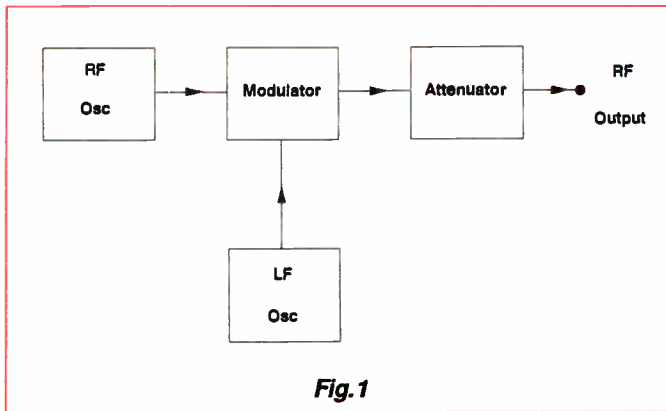

Fig.1
Both the AMPS and the GSM cellular radio systems approach the radio coverage aspect very differently. Instead of using a single high power transmitter to blanket, say, a city, the city is divided into several smaller areas called *cells*. Each cell may have a radius of perhaps only 10 or 20km, and each cell will also have its own base station. In diagrams, cells are usually drawn as hexagons; see Fig.1.
**Fig.1 (left):** With Cellular Radio, an area is covered by groups of, say, seven cells. All the B cells would use the same frequencies and so on. A frequency used in B would not be used in cells A or C to G.
an output socket via a calibrated attenuator unit, as illustrated in Fig.1.